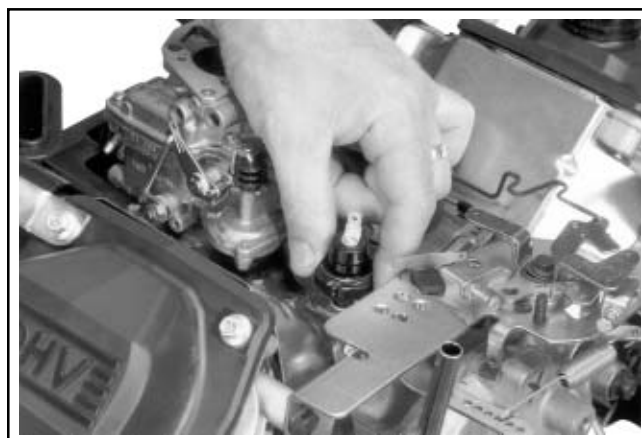

Figure 11-84. Installing Oil Sentry™ Switch.
1. Apply **pipe sealant with Teflon®** (Loctite® No. 59241 or equivalent) to the threads of the Oil Sentry™ switch and install it into the breather cover. See Figure 11-84. Torque to **4.5 N·m (40 in. lb.)**.